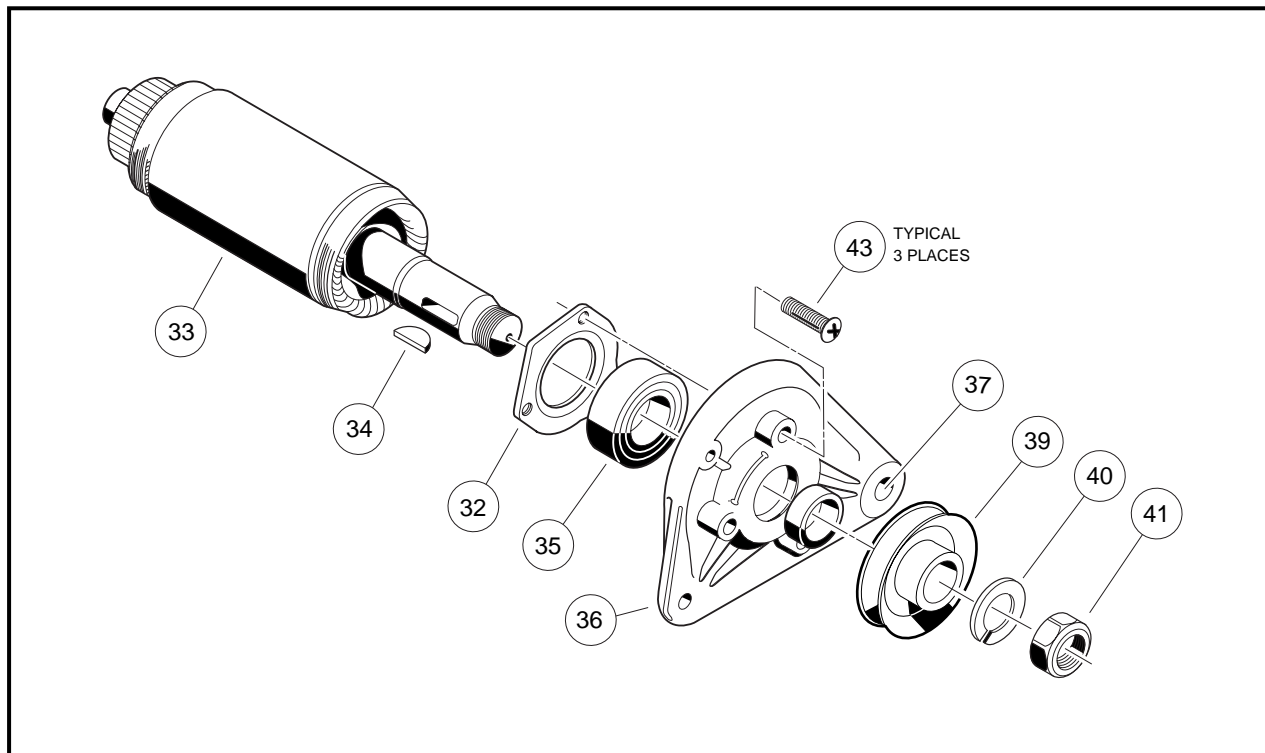
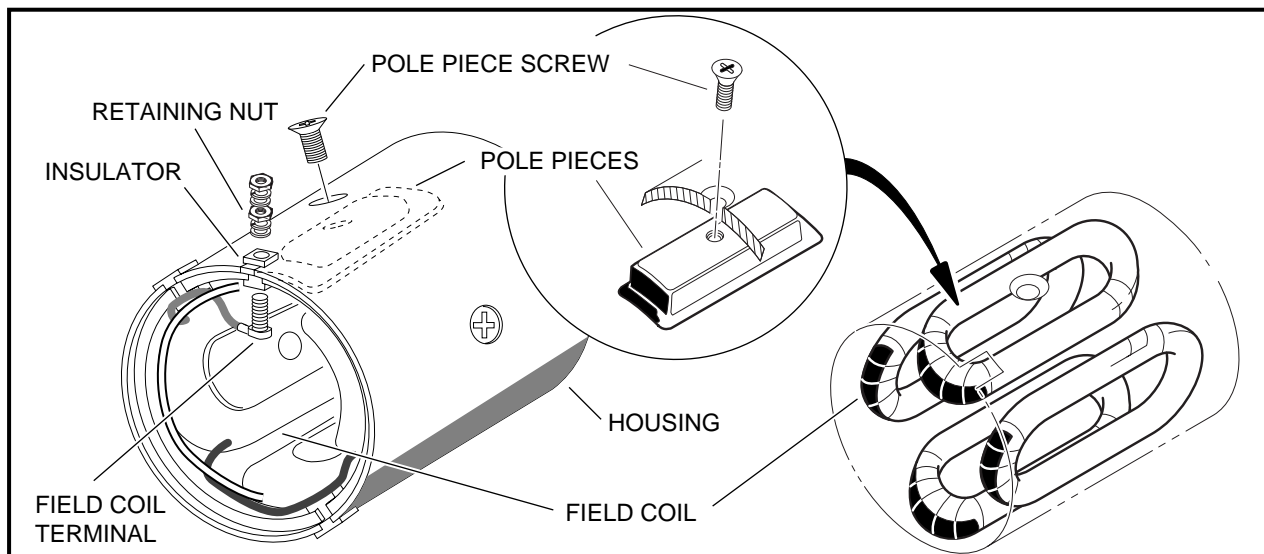

Figure 12-8 Armature and Output End Cover Assembly
Figure 12-11 Field Coil Assembly
3. To separate armature (33) from output end cover (36), remove nut (41), lockwasher (40), pulley (39), shaft key (34), spacer (37), and bearing retainer screws (43) (**Figure 12-8, Page 12-6**).
3. Slide the bearing retainer (32) off of the output end of the shaft (**Figure 12-8, Page 12-6**).
1. Remove the retaining nut from each field coil terminal and slide the insulator out of the slots in the housing. Remove the four pole piece screws from the housing. Remove the four pole pieces from inside the housing. Remove the field coils from the inside of the housing (**Figure 12-11, Page 12-8**).
NOTE: Do not remove the insulators or the field coils unless an electrical test indicates that it is necessary (Figure 12-11, Page 12-8). See Test Procedure 8, Section 11, Page 11-29.
2. After the insulators are seated in the slots, install the threaded terminals through the wire connectors and then through the insulators. Install a flat washer, lockwasher and nut onto each threaded terminal on the outside of the housing. Tighten nuts to 47.5 in-lb (5.4 N-m) (Figure 12-11, Page 12-8).
3. Install the four pole pieces into the housing. Use the four screws to secure pole pieces to the inside of the housing to retain the field wires. Tighten screws to 9 ft-lb (12.2 N·m) **(Figure 12-11, Page 12-8)**.
4. Slide the bearing retainer onto the output end of the armature shaft (33) so that it will hold the outside of the bearing (35) only.
5. Press a new ball bearing (35) onto the output end of the armature **(Figure 12-8, Page 12-6)**. Press a new ball bearing onto the commutator end of the armature shaft. **See following CAUTION.**
6. Install the output end cover (36) onto the armature. Secure the bearing retainer (32) to the cover and tighten the screws (43) to 39 in-lb (4.4 N·m) **(Figure 12-8, Page 12-6)**.
11. Slide the spacer (37) onto the end of the shaft. Insert the shaft key (34) into the shaft. Install the belt pulley (39) onto the shaft, and install the lockwasher (40) and M14 nut (41). Tighten the nut to 28 ft-lb (38 N·m) **(Figure 12-8, Page 12-6)**.